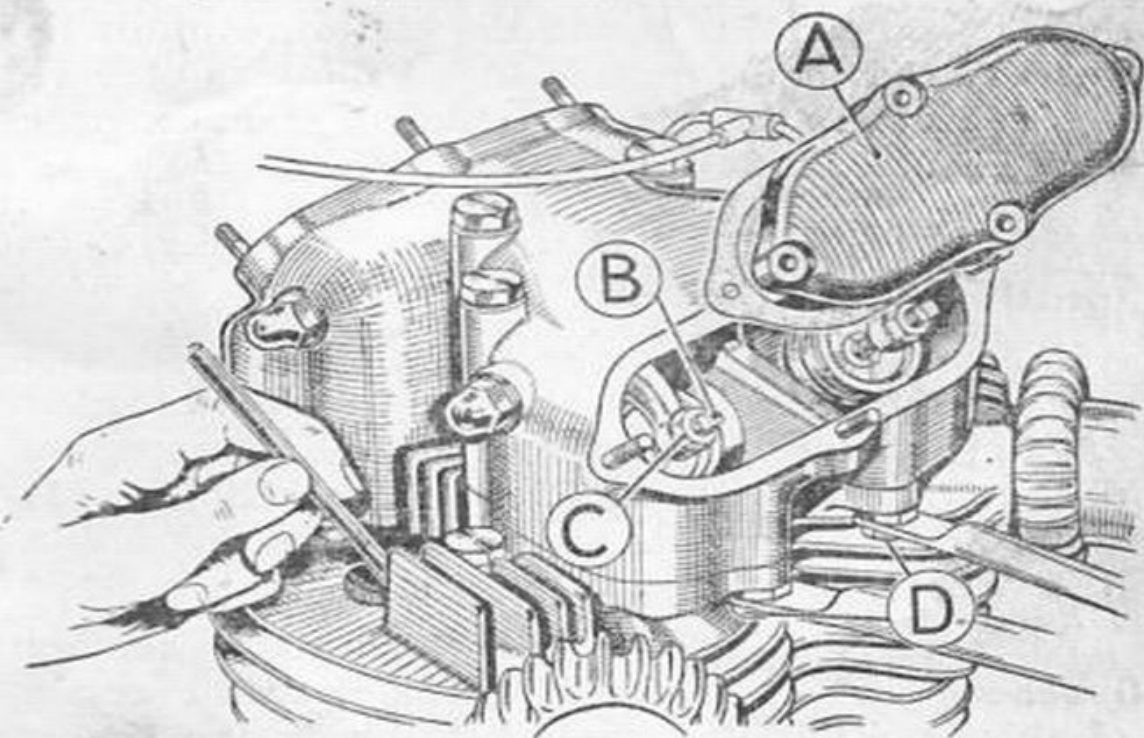

Fig. 7. Tappet Adjustment and Ignition Setting
*The tappet inspection covers (A, Fig. 7).* A special spanner is provided in the kit for unscrewing the four nuts.
*Apply a spanner to the flats on the adjusting screw at B (Fig. 7). Hold it stationary, in order to assist in the operation of releasing the locknut.*
*The tappet inspection covers A (Fig. 7).* A special spanner is provided in the kit for unscrewing the four nuts.
*Rotate the engine in a forward direction until the right hand side piston is at the top of its compression stroke.* Check its position by means of a rod inserted through the sparking plug hole and resting on the piston head (see Fig. 7); also make sure that both inlet and exhaust valves are closed, i.e., that the tappet clearance can be felt. By this means, the piston will be at its correct top dead centre for timing purposes.